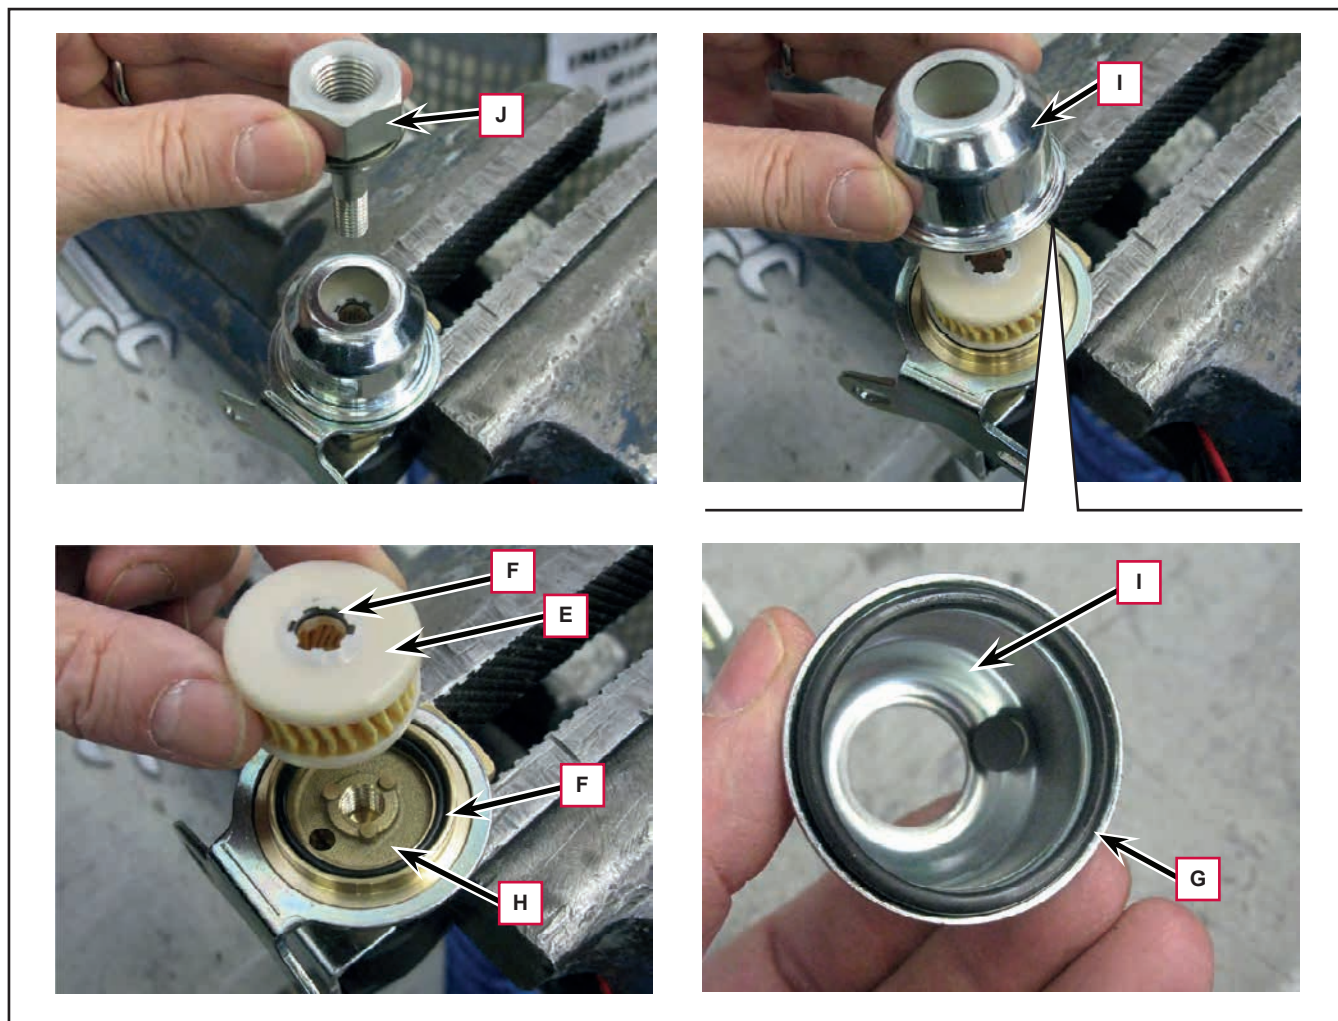

Figure 12
4. Remove the filter (E, Figure 12).